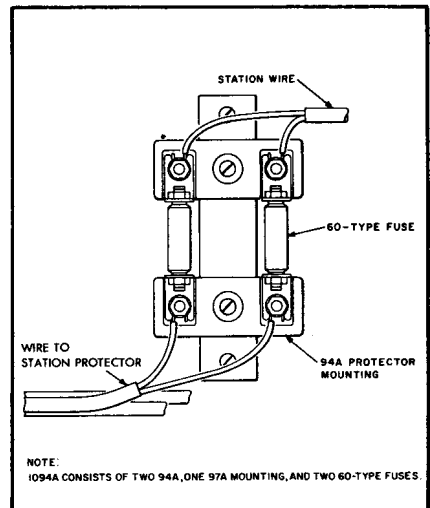

FIGURE 27. 1094A Type Protector with Type 60 Fuses
7.02 Where main frame type protectors are not used, sneak current fuses are required. The 1094A type protector equipped with sneak current fuses (60D) will be used with either fuseless or fused protectors. Insert the 1094A type protector between the fuseless or fused protector and the station wire (for indoor mounting only). See Figure 27.